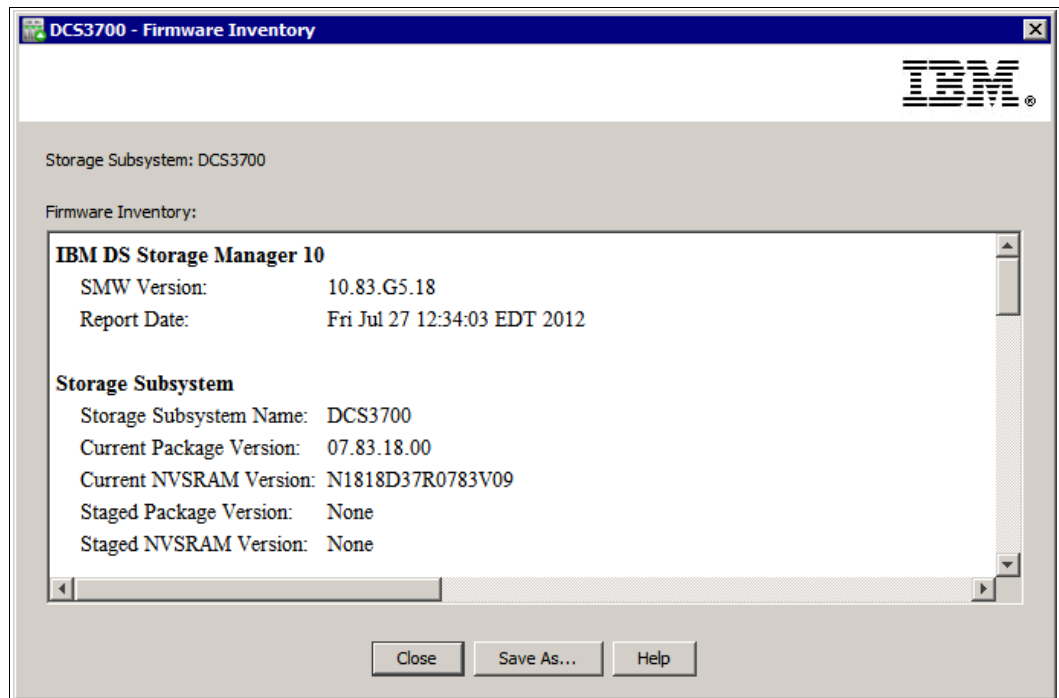

Figure 14-5 Storage Subsystem - Firmware Inventory
2. Figure 14-5 shows the Firmware Inventory window that opens. Save the firmware inventory to a text file by clicking **Save As**.